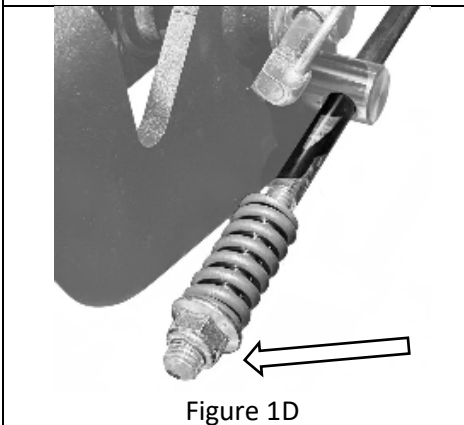

Figure 1D
- Check the rear drag links. These should come pre-set with the nut threaded on to about 1/2" from the end of the bolt (Figure 1D). This controls the pitch and how fast it begins to raise as the rear lift arms are raised.